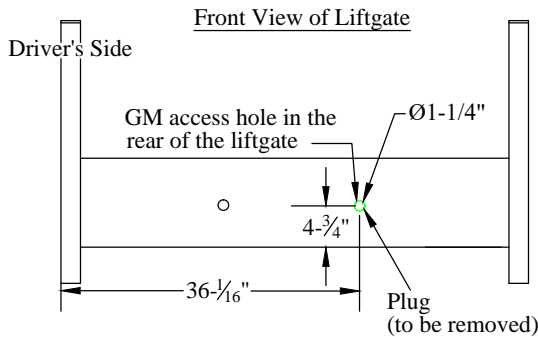

Figure 20: Spare tire access holes.
7. **Remove** and **Discard** the black plastic plug in the rear of the liftgate for spare tire tube access (Figure 20).